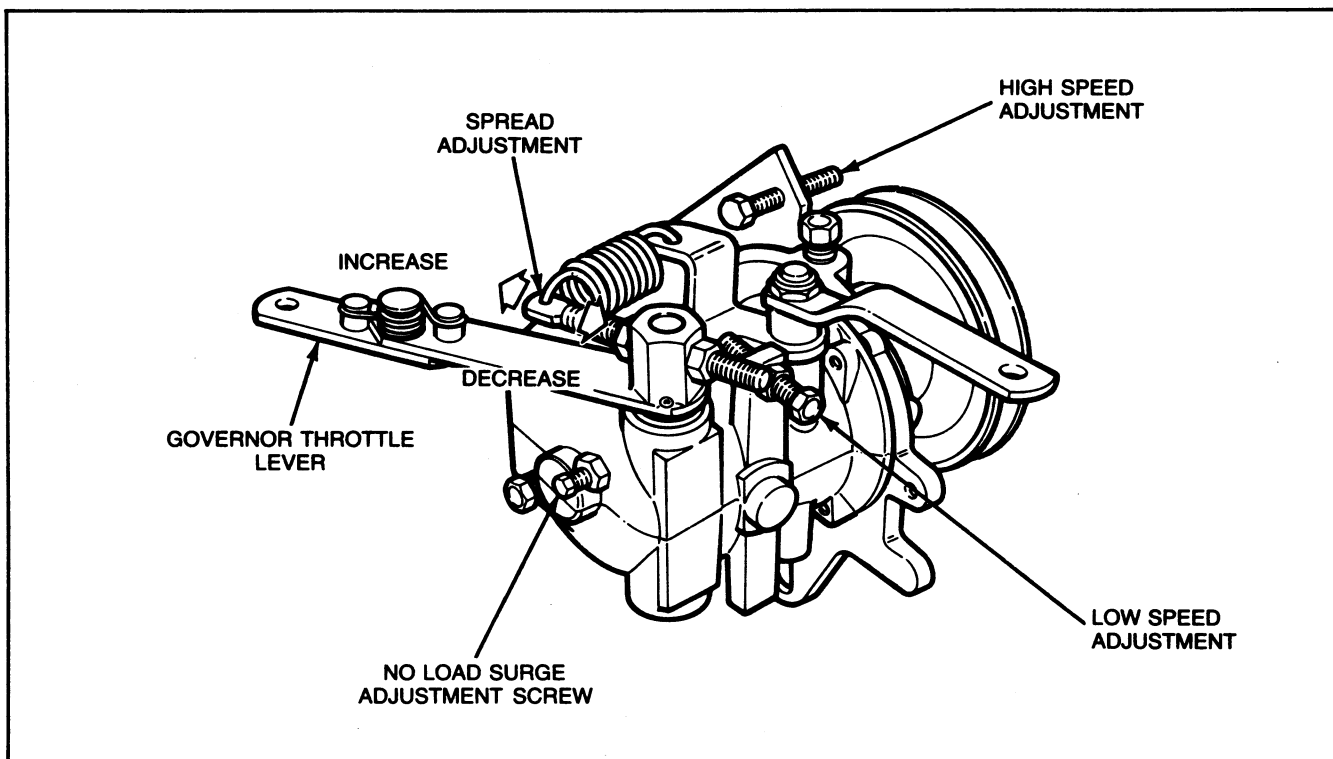

FIG. 3 Governor Adjustments
1. With the engine running under no-load at maximum governed speed, loosen the locknuts and adjust the screw (Figure 3) to move the spring away from the lever hub. Tighten the lock nuts.
2. Loosen the no-load surge adjustment screw locknut (Figure 3) and turn the screw inward until the rpm increases to the desired control rpm.